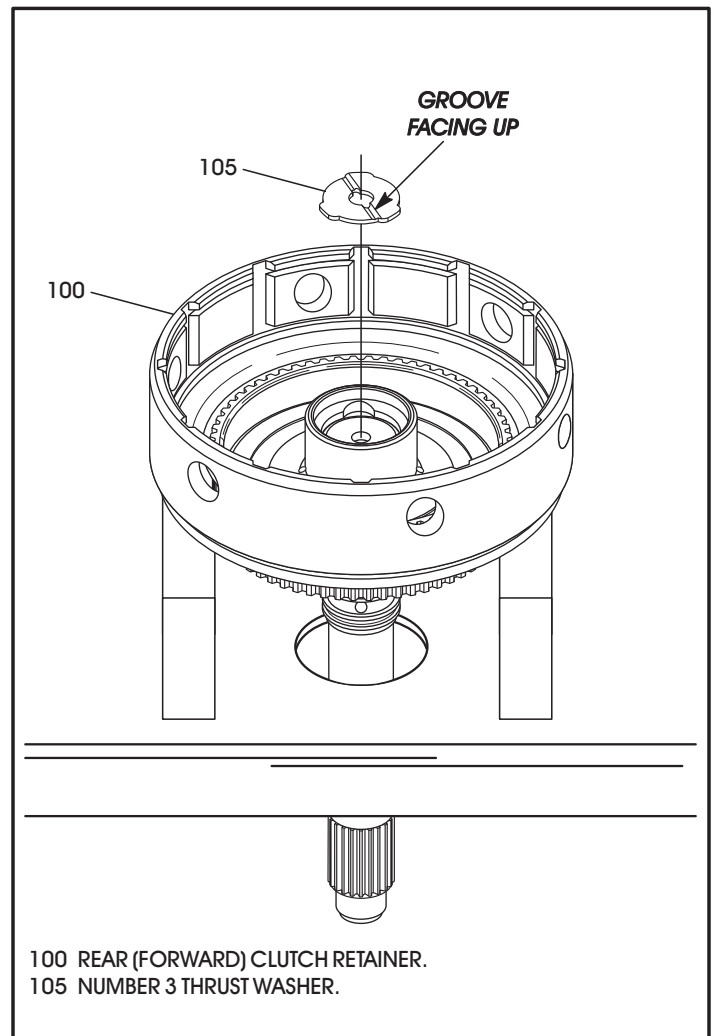

Figure 123
5. Turn the assembly over and place on blocks with input shaft protruding thru hole in work bench, as shown in Figure 123.
6. Install number 3 thrust washer into the shaft, as shown in Figure 123, with the groove facing up, and retain with liberal amount of Trans-Jel®.